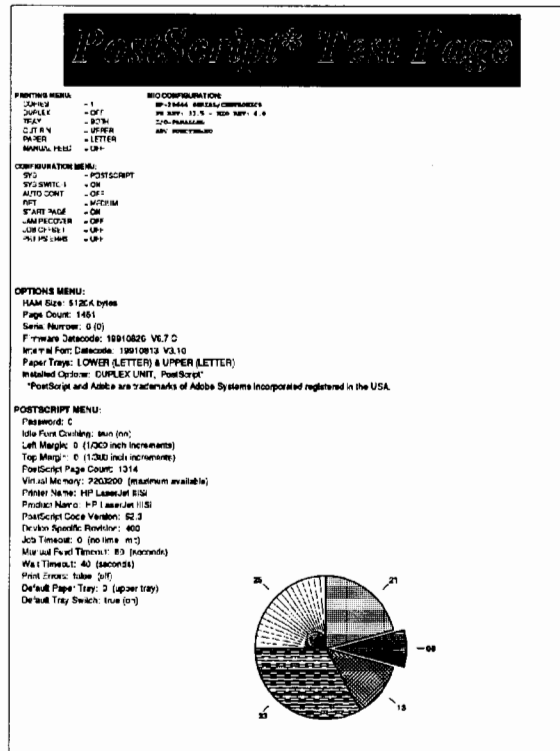

Figure 1-9. PostScript Test Page
3. A *PostScript Test Page* as shown in Figure 1-9 should print. A flashing “Ready” light indicates printing will take place in about 30 seconds.